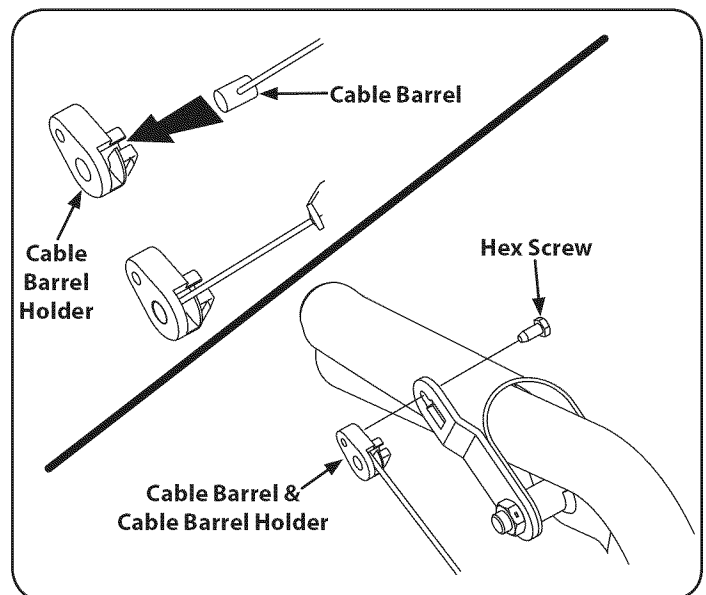

Figure 7
- Insert the cable barrel into the cable barrel holder, insert the barrel and barrel holder into the clutch handle and secure with the hex screw. See Figure 7.